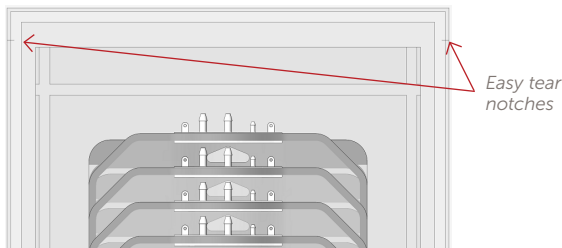

Figure 3. Easy tear notches
2. There are two sealed bags protecting the Aramus assembly. To open the outer bag, grip the side of the protective packaging bag and use the “easy tear” notches, Figure 3, to pull in opposite directions, allowing the top section and main body of the packaging to separate and subsequently open the bag. Repeat this procedure to open the inner protective package.